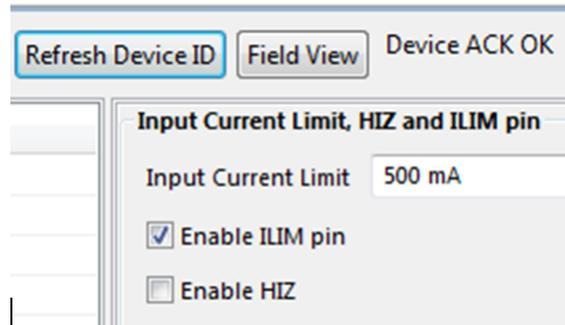
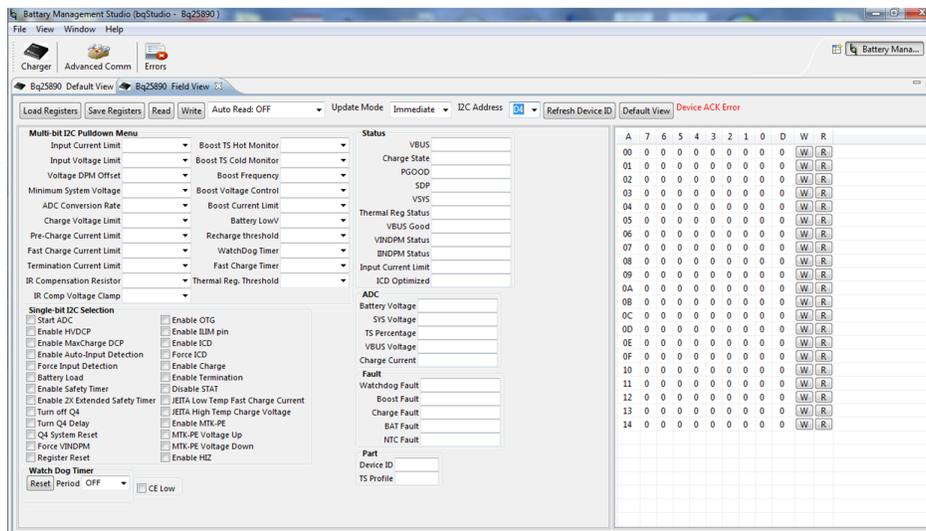

Figure 9. Select Field View
Figure 10. Main Window of the bq2589x Evaluation Software
- Choose *Field View*, as shown in Figure 9. The main window of the bq2589x software is shown in Figure 10.